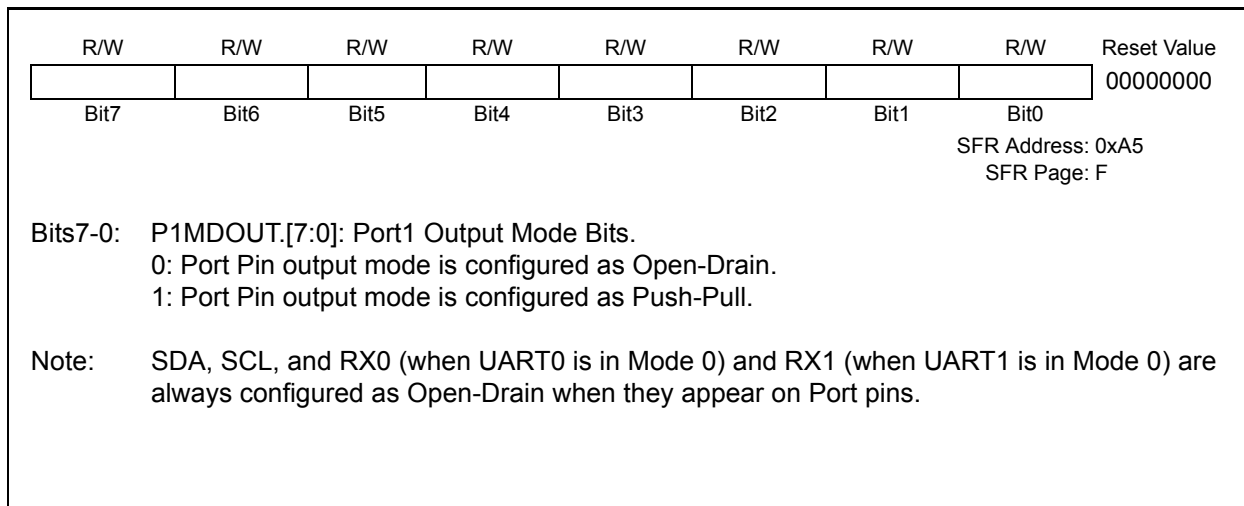

Figure 18.14. P1MDOUT: Port1 Output Mode Register
- On C8051F12x devices, P1.[7:0] can be configured as inputs to ADC2 as AIN2.[7:0], in which case they are 'skipped' by the Crossbar assignment process and their digital input paths are disabled, depending on P1MDIN (See Figure 18.13). Note that in analog mode, the output mode of the pin is determined by the Port 1 latch and P1MDOUT (Figure 18.14). See Section "7. ADC2 \(8-Bit ADC, C8051F12x Only\)" on page 93 for more information about ADC2.